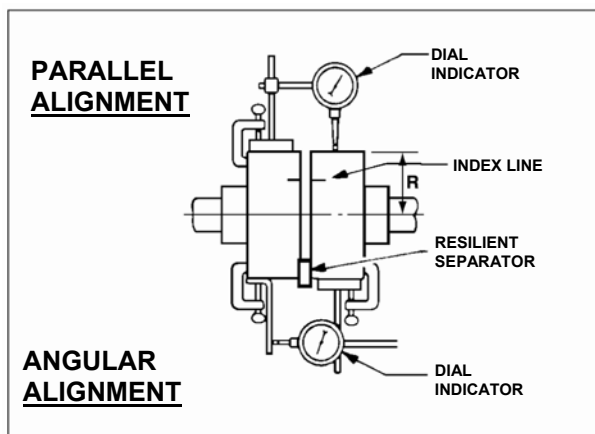

FIG. 5B – CHECKING ALIGNMENT (METHOD 2)
(See Fig. 5B)
- c. Scribe index lines on coupling halves as shown in Fig. 5B.
- i. For single element couplings, a satisfactory parallel misalignment is 0.004"T.I.R., while a satisfactory angular misalignment is 0.004"T.I.R. per inch of radius R (See Fig. 5B).